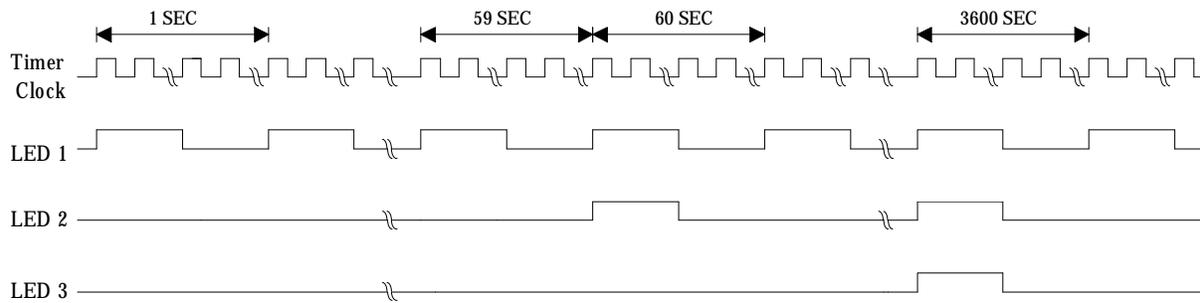

Figure 1: LED Timing
Enabling bit 1 (OVIE) of the Timer Interrupt Enable Register (TIER) and loading the Free Running Counter (FRC) with FFFF initiates the interrupt service routine that controls the clock operation. The FRC contents are incremented on each consecutive falling edge of the timer clock. Since a compare-match value of 15,625 (or 3D09 hex) was loaded into the Output Compare Register A (OCRA), and bit 0 (CCLRA) of the Timer Control/Status Register (TCSR) was set to 1, the FRC will reset its contents to 0 and resume counting after each second has elapsed. Bit 3 (OCFA) of TCSR indicates a match between OCRA and FRC has occurred, and is continuously monitored by the user software. When it is set, a high pulse is transmitted through output port bit P5(0), and LED 0 will turn on each second. A loop counter in the program is used to hold this signal high for 1/2 second, and then turn it low. After 60 compare-matches between OCRA and FRC have occurred, output port bit P5(1) is set high, turning on LED 1 for 1/2 second, indicating that a minute has elapsed. Similarly, after 3600 compare-matches between OCRA and FRC, LED 3 will be turned on for 1/2 second via P5(3) indicating an hour has passed. Figure 1 on the next page illustrates the timing of the output port bits P5(2-0). The program flowcharts are shown in figures 2-5.